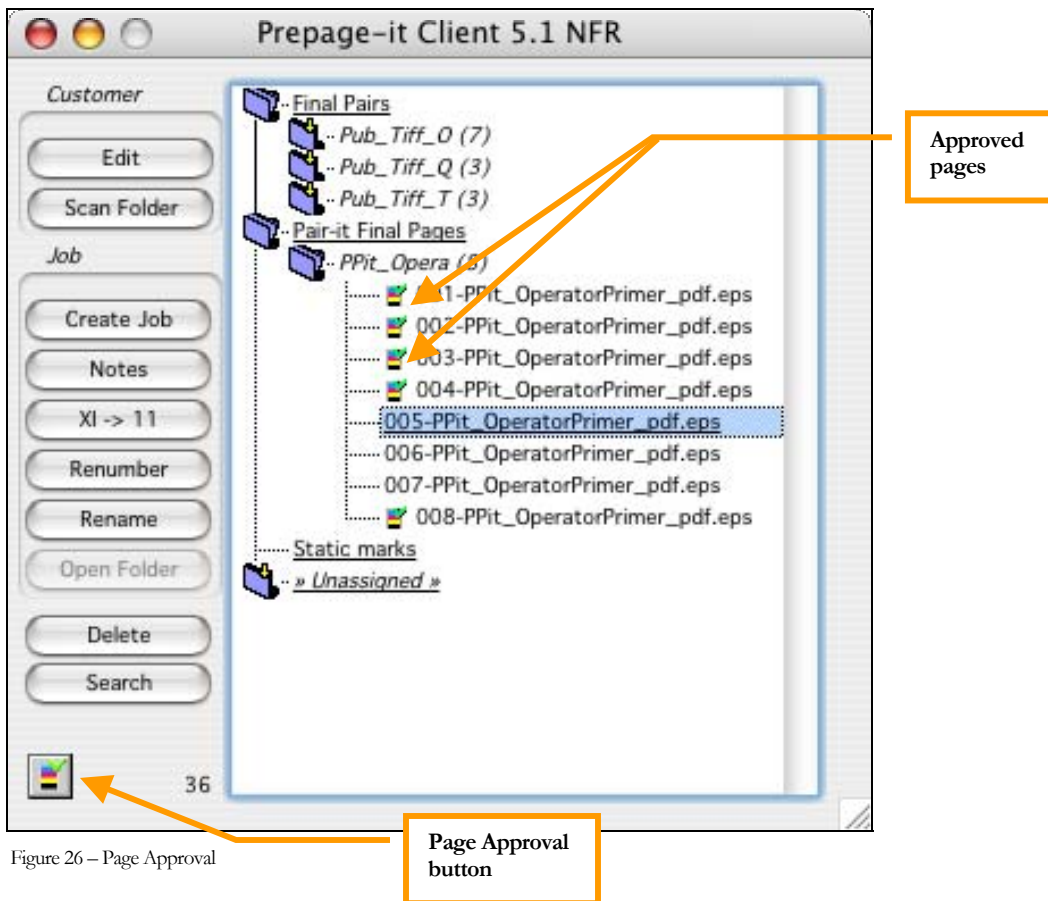

Figure 26 – Page Approval
After clicking **OK** to the **Preferences** dialog box, you must close the main **Jobs** window (see Figure 26) and then re-open it via the menu item **Jobs > All Jobs** or by pressing **CTRL+J** (PC) / **Command+J** (Mac).
When a newly RIPped page arrives in the Client, you may softproof it or otherwise verify it. When you are ready to approve it, you select the page and then click on the **Page Approval** button. An approval icon appears next to the page (see Figure 26). Note that in certain cases it's necessary to remove your approval of a page, simply re-select that page and click on the **Page Approval** button once again.